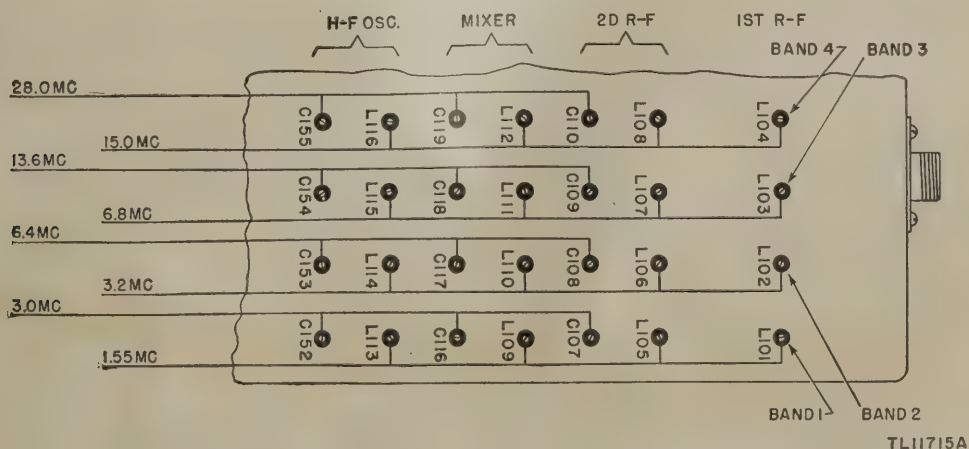

Figure 184. R-f trimmers, locations.
- (6) Allow the equipment to warm up for one-half hour before alinement.
- (7) Use a bakelite or high dielectric screwdriver for trimming.
- (8) See figure 184 for trimmer locations.
- (9) Refer to the r-f alinement chart (b below). Check the receiver tuning accuracy (colm. 3) at both ends of band (colm. 2).
- (10) If the tuning error is less than shown in column 3A, omit column 5. Alternately trim the L's and C's of the r-f and mixer stages at both ends of the band (colm. 6), beginning at the low